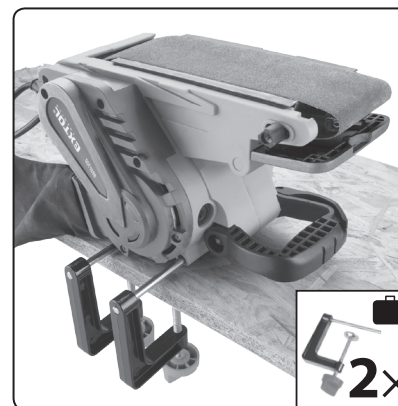

Fig. 1
- Turn the sander upside down with the belt pointing upwards and insert the insertion rods of the included clamps into the sockets in the sander, see fig. 1. Then firmly attach the sander to the bench using the clamps.
- The power tool is equipped with a trigger lock button for the case, where it is necessary to lock the trigger in the pulled position, e.g. when sanding larger surfaces or when using the belt sander as a bench sanding clamped to the bench, see fig. 1.